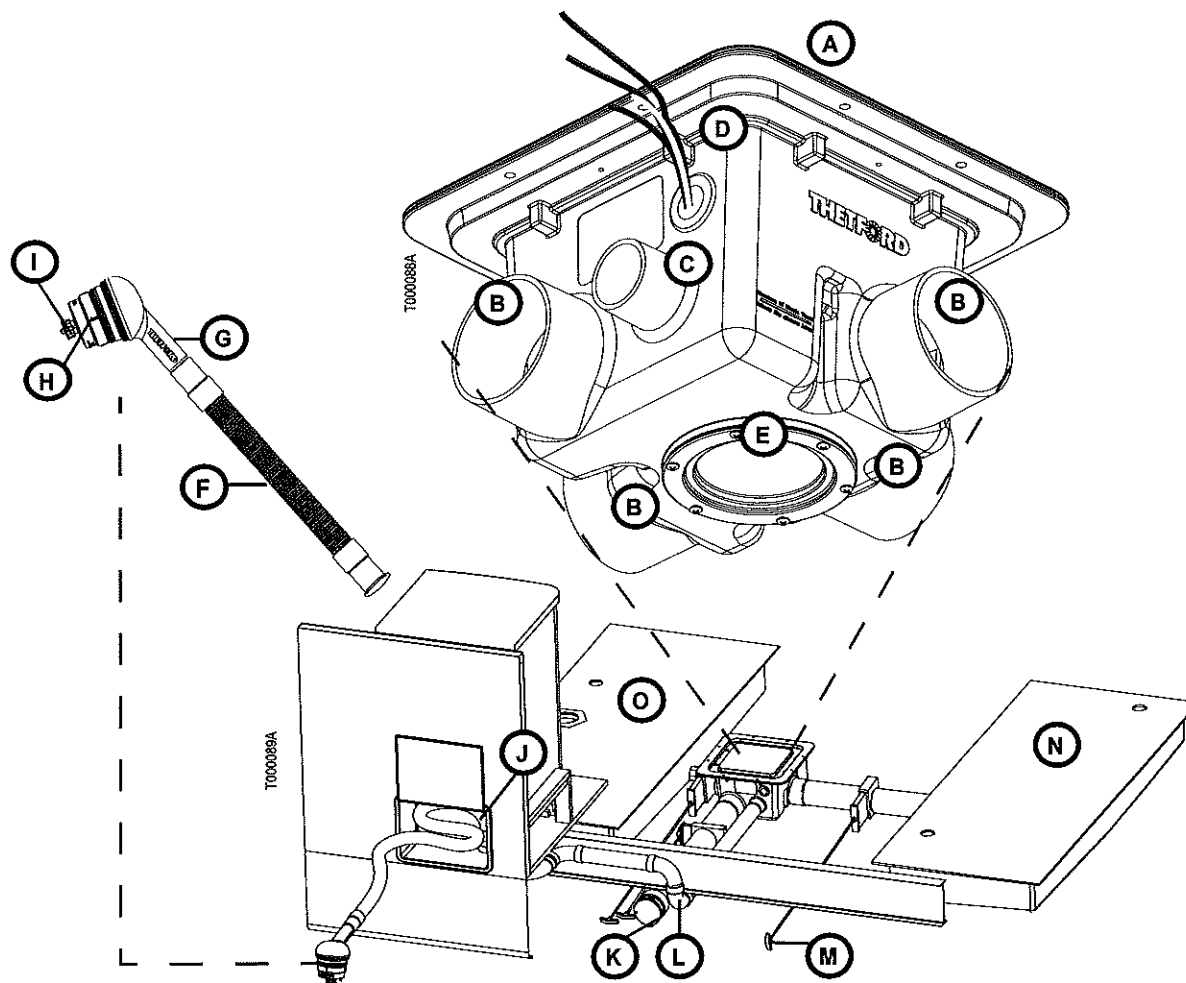

Fig. 1
**NOTE:** Refer to the **Fig. 1**.
**REMARQUE :** Consultez la **FIG. 1**.
**NOTA:** Consulte la **FIG. 1**.